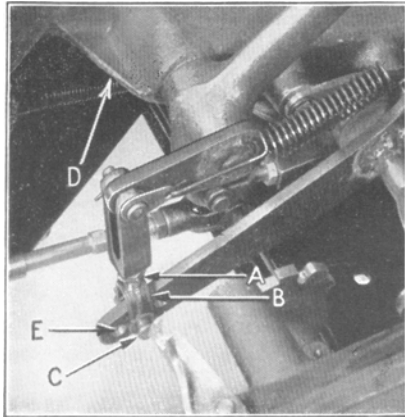

Figure 34
This can be adjusted by loosening lock nut (A), Fig. 34, removing cotter pin and clevis pin (C), and turning yoke (B) to increase or decrease the clearance as required. Replace clevis pin and cotter pin and tighten lock nut securely.
vals of 1,000 miles, using viscous chassis lubricant applied through the grease fitting (D), Fig. 34, on the bottom of the pedal bracket, reached from underneath the car.